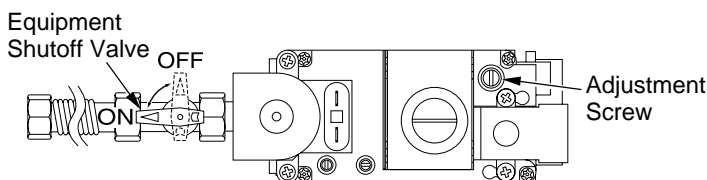

Figure 34 - Turning Equipment Shutoff Valve to the OFF Position
6. Turn equipment shutoff valve clockwise  to the OFF position (see Figure 34, page 16). Do not force.
7. Wait five (5) minutes to clear out any gas. Then smell for gas, including near the floor. If you smell gas, **STOP!** Follow "B" in the safety information, above. If you don't smell gas, go to the next step.